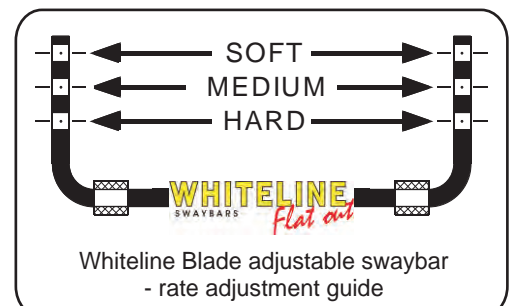

Fig.5 Whiteline 3 hole Blade swaybar shown.
- Whiteline Blade adjustable swaybars vary between 2, 3 and 4 holes per side, depending on application. Refer to Fig. 5 to work out the desired setting on how to connect the endlink. If multi-hole endlink brackets are supplied, choose the hole that maintains the endlink close to vertical.